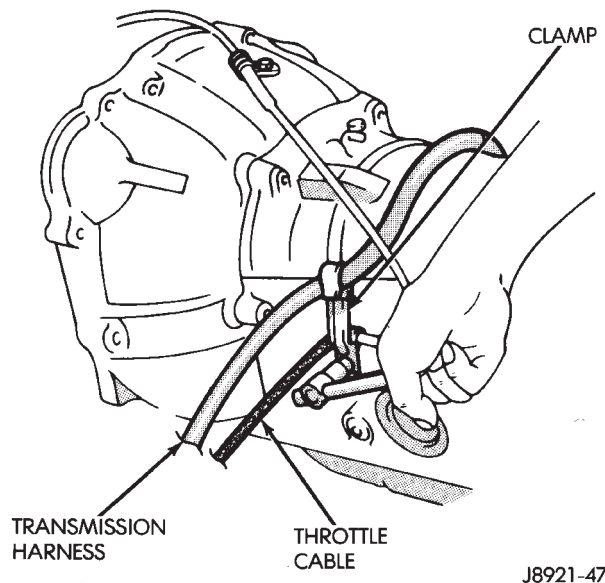

Fig. 1 Typical Harness And Cable Clamp Attachment
- (1) Remove torque converter.
- (2) Remove lower half of filler tube if not previously removed.
- (3) Remove clamps attaching wire harness and throttle cable (Fig. 1) to transmission.
- (4) Remove shift lever from manual valve shaft at left side of transmission.
- (5) Remove park/neutral position switch.